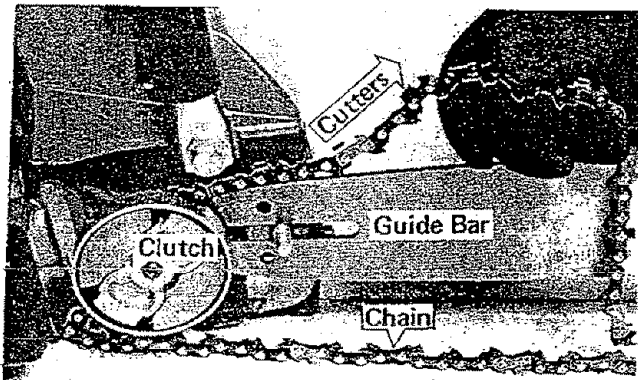

Figure 3
3. Fit the chain over the clutch and onto the guide bar. Be sure the cutters face the way shown in Figure 3.